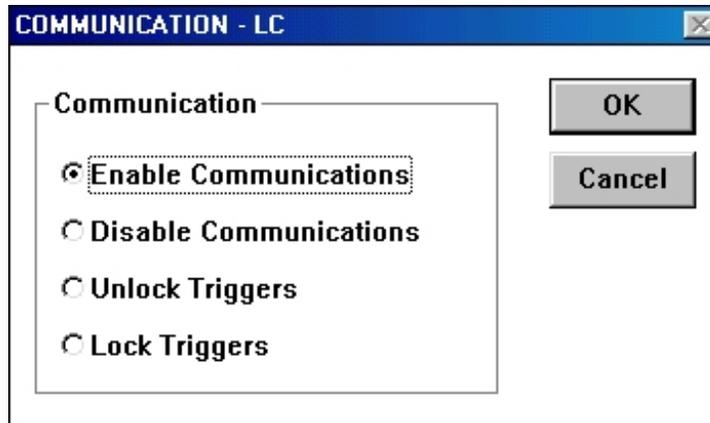

Figure 12: Communication - LC Dialog Box
1. On the Action menu, click Communication. The Communication-LC dialog box appears (Figure 12).